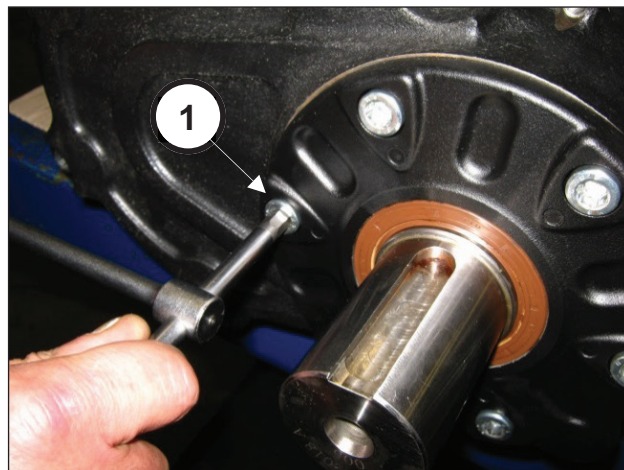

Fig. 3
Unscrew the pinion cover fixing screws (pos. ①, Fig. 3) and remove the cover from the shaft.